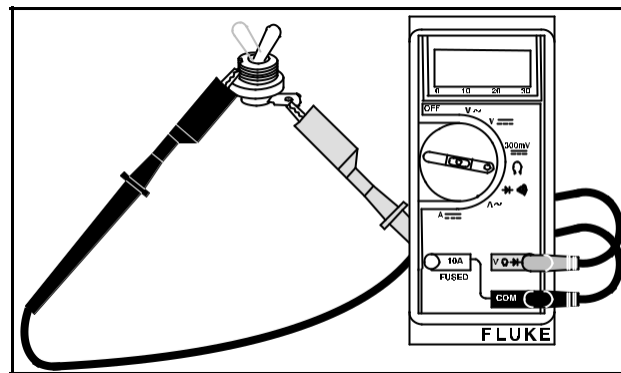

Fig. 108 – CHECKING TOGGLE STOP SWITCH
4. Move switch to "ON" position. There should be no continuity, Fig. 108.